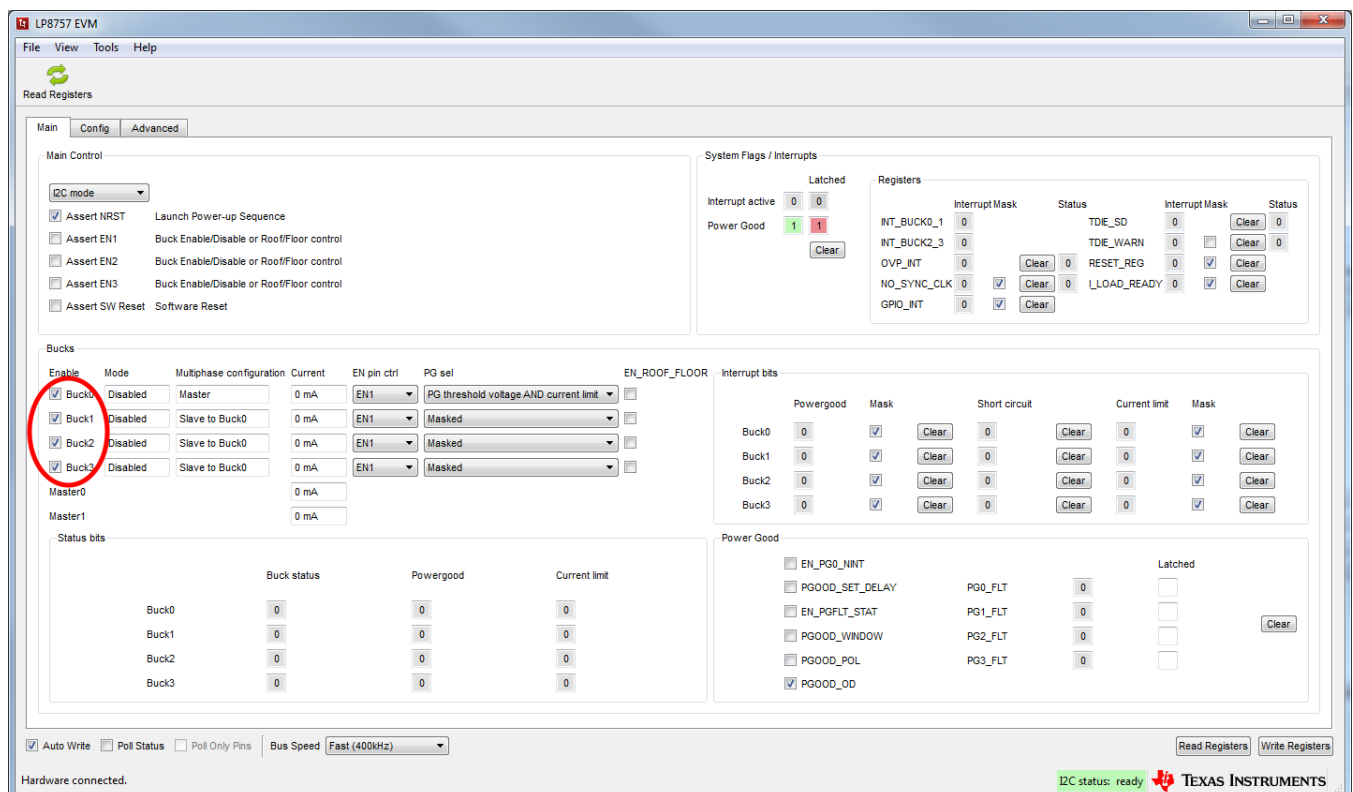

Figure 9. BUCK0 Enabled
3. Check that Buck0 is enabled, checkbox is ticked (see Figure 9).